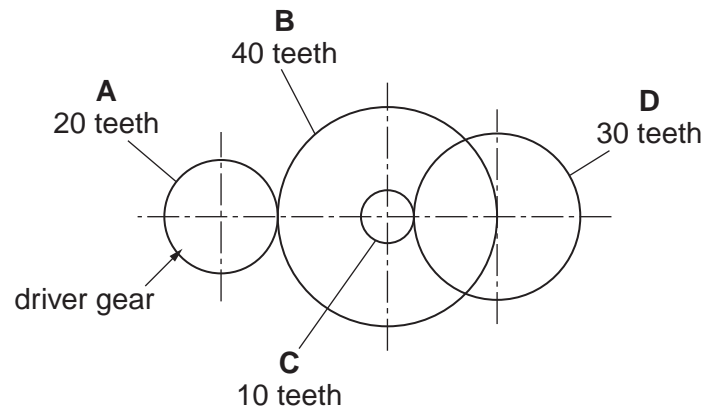

Fig. 5
- 5 (a) Calculate the gear ratio of the compound gear train shown in Fig. 5.